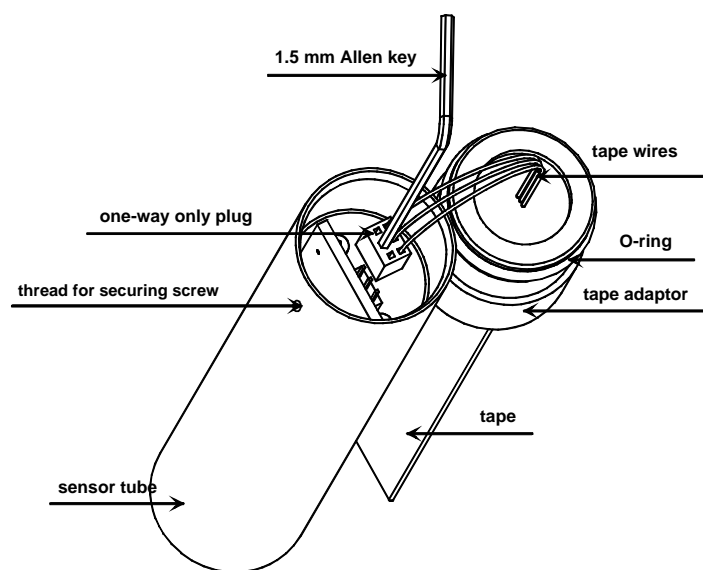

Figure 10-9
- Refer to Figure 10-9.
- With one hand keep the sensing probe and the tape adaptor as shown on Figure 10-9.
- With the other hand drive the plug into the new sensor tube with the 1.5 Allen key to connect it to the sensing probe socket. Note this is a one way only plug. The wires shall be on the opposite side of the electronic circuit print as shown on Figure 10-9.